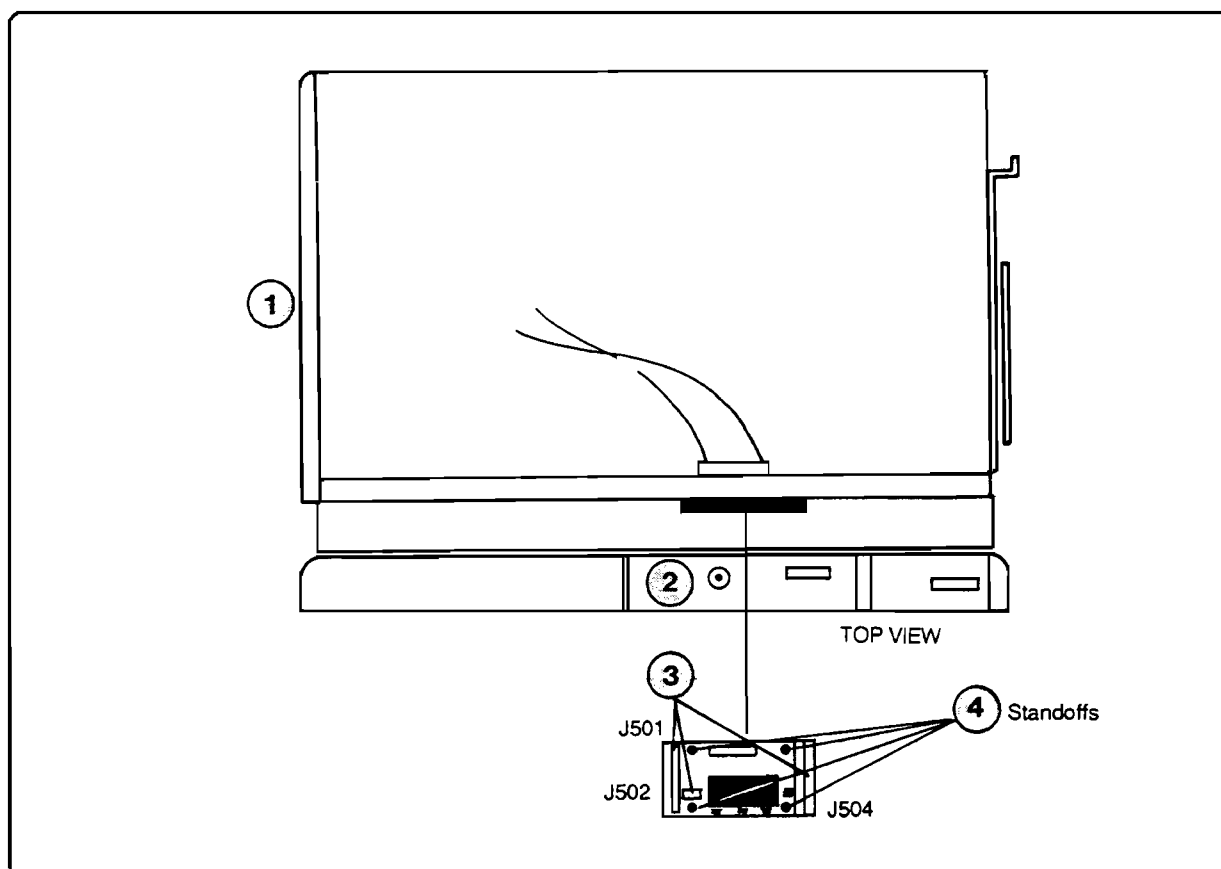

Figure 6-28. Display Driver PCA Removal
3. Disconnect the display driver cables J501 and J502 (see Figure 6-28).